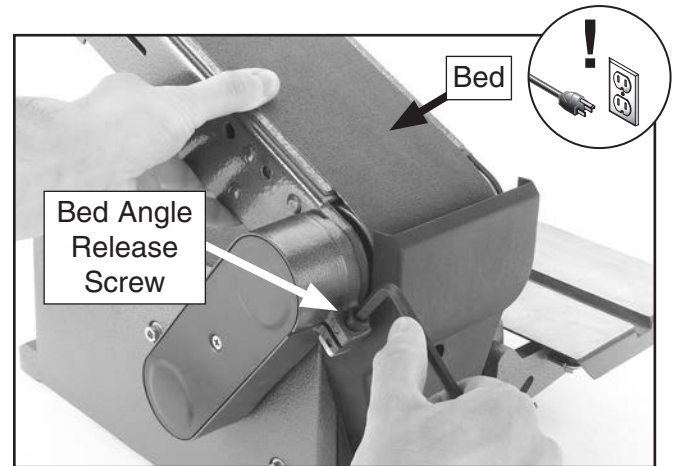

Figure 20. Bed angle adjustment.
- Loosen bed angle release screw, as shown in **Figure 20**.